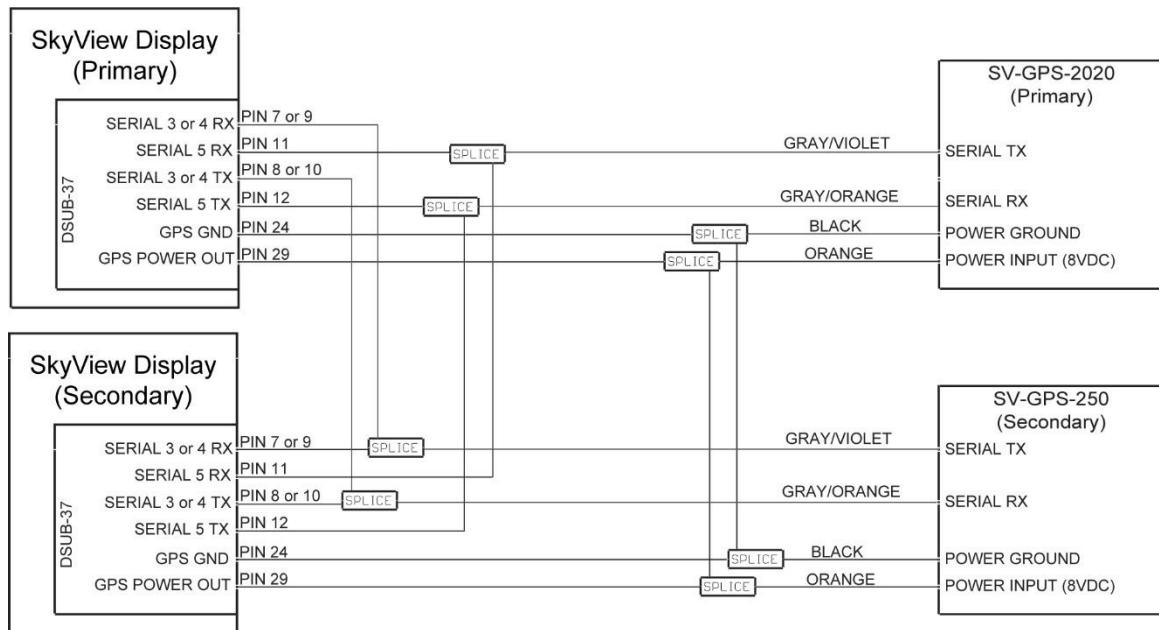

Figure 117 – SV-GPS-2020 and SV-GPS-250 Connected to Multiple Displays (not applicable to SkyView SE)
If your installation has two or more displays and more than one SV-GPS-250/2020 (including one SV-GPS-250 and one SV-GPS-2020, all four wires of the SV-GPS-250 and/or SV-GPS-2020 must be connected to the *primary and secondary displays*, as shown in Figure 117). Note that secondary SV-GPS-250's transmit (TX) and receive (RX) wires are connected to another serial port, preferably port 3 or 4.
The following configuration uses Serial Port 4 for the (secondary) SV-GPS-250 as shown in Figure 117 – SV-GPS-2020 and SV-GPS-250 Connected to Multiple Displays. As explained there, use of Serial Port 4 for the SV-GPS-250 (secondary GPS) is for illustration only. Serial Port 1, 2, 3, or 4 (if available) may be used for the SV-GPS-250 (secondary GPS).